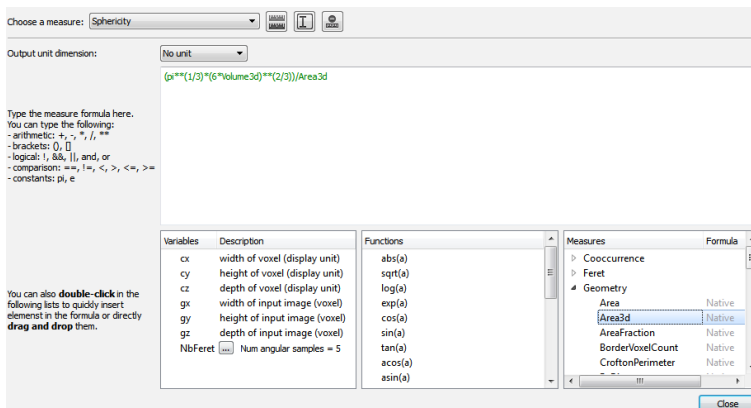

Figure 4.63: Measure edition
- Enter the sphericity formula in the dedicated field of the panel (see Figure 4.63).